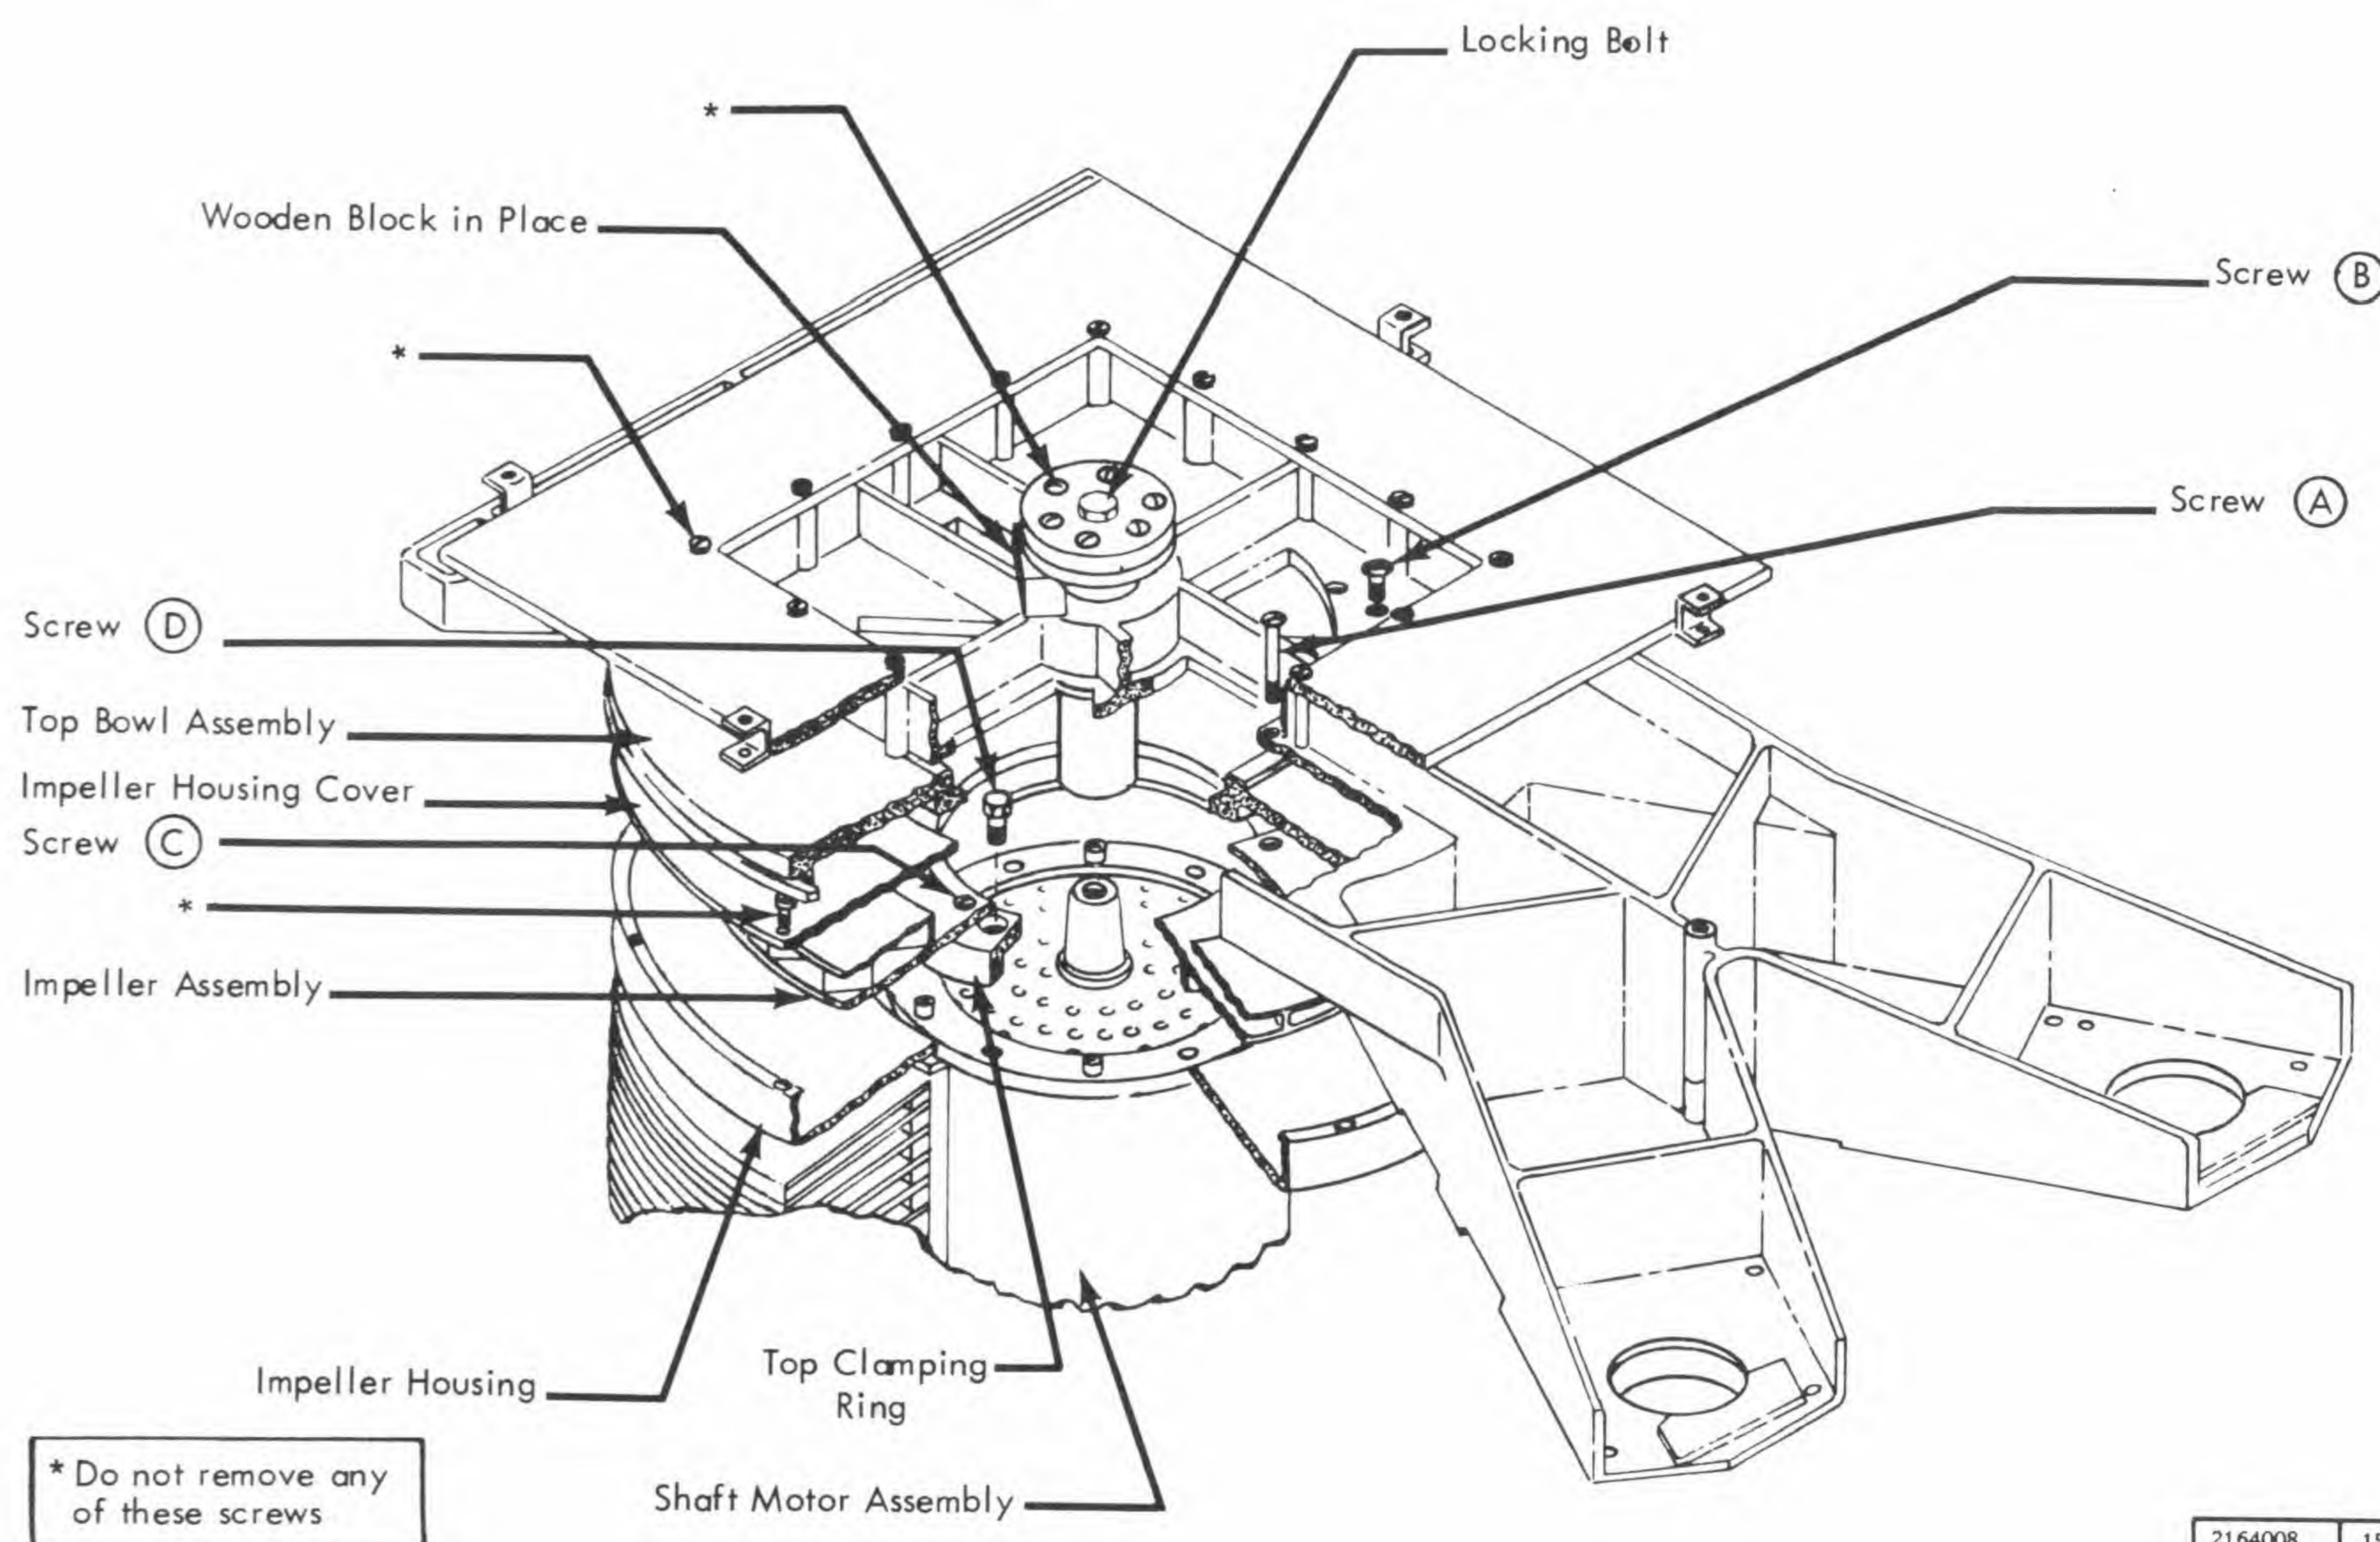
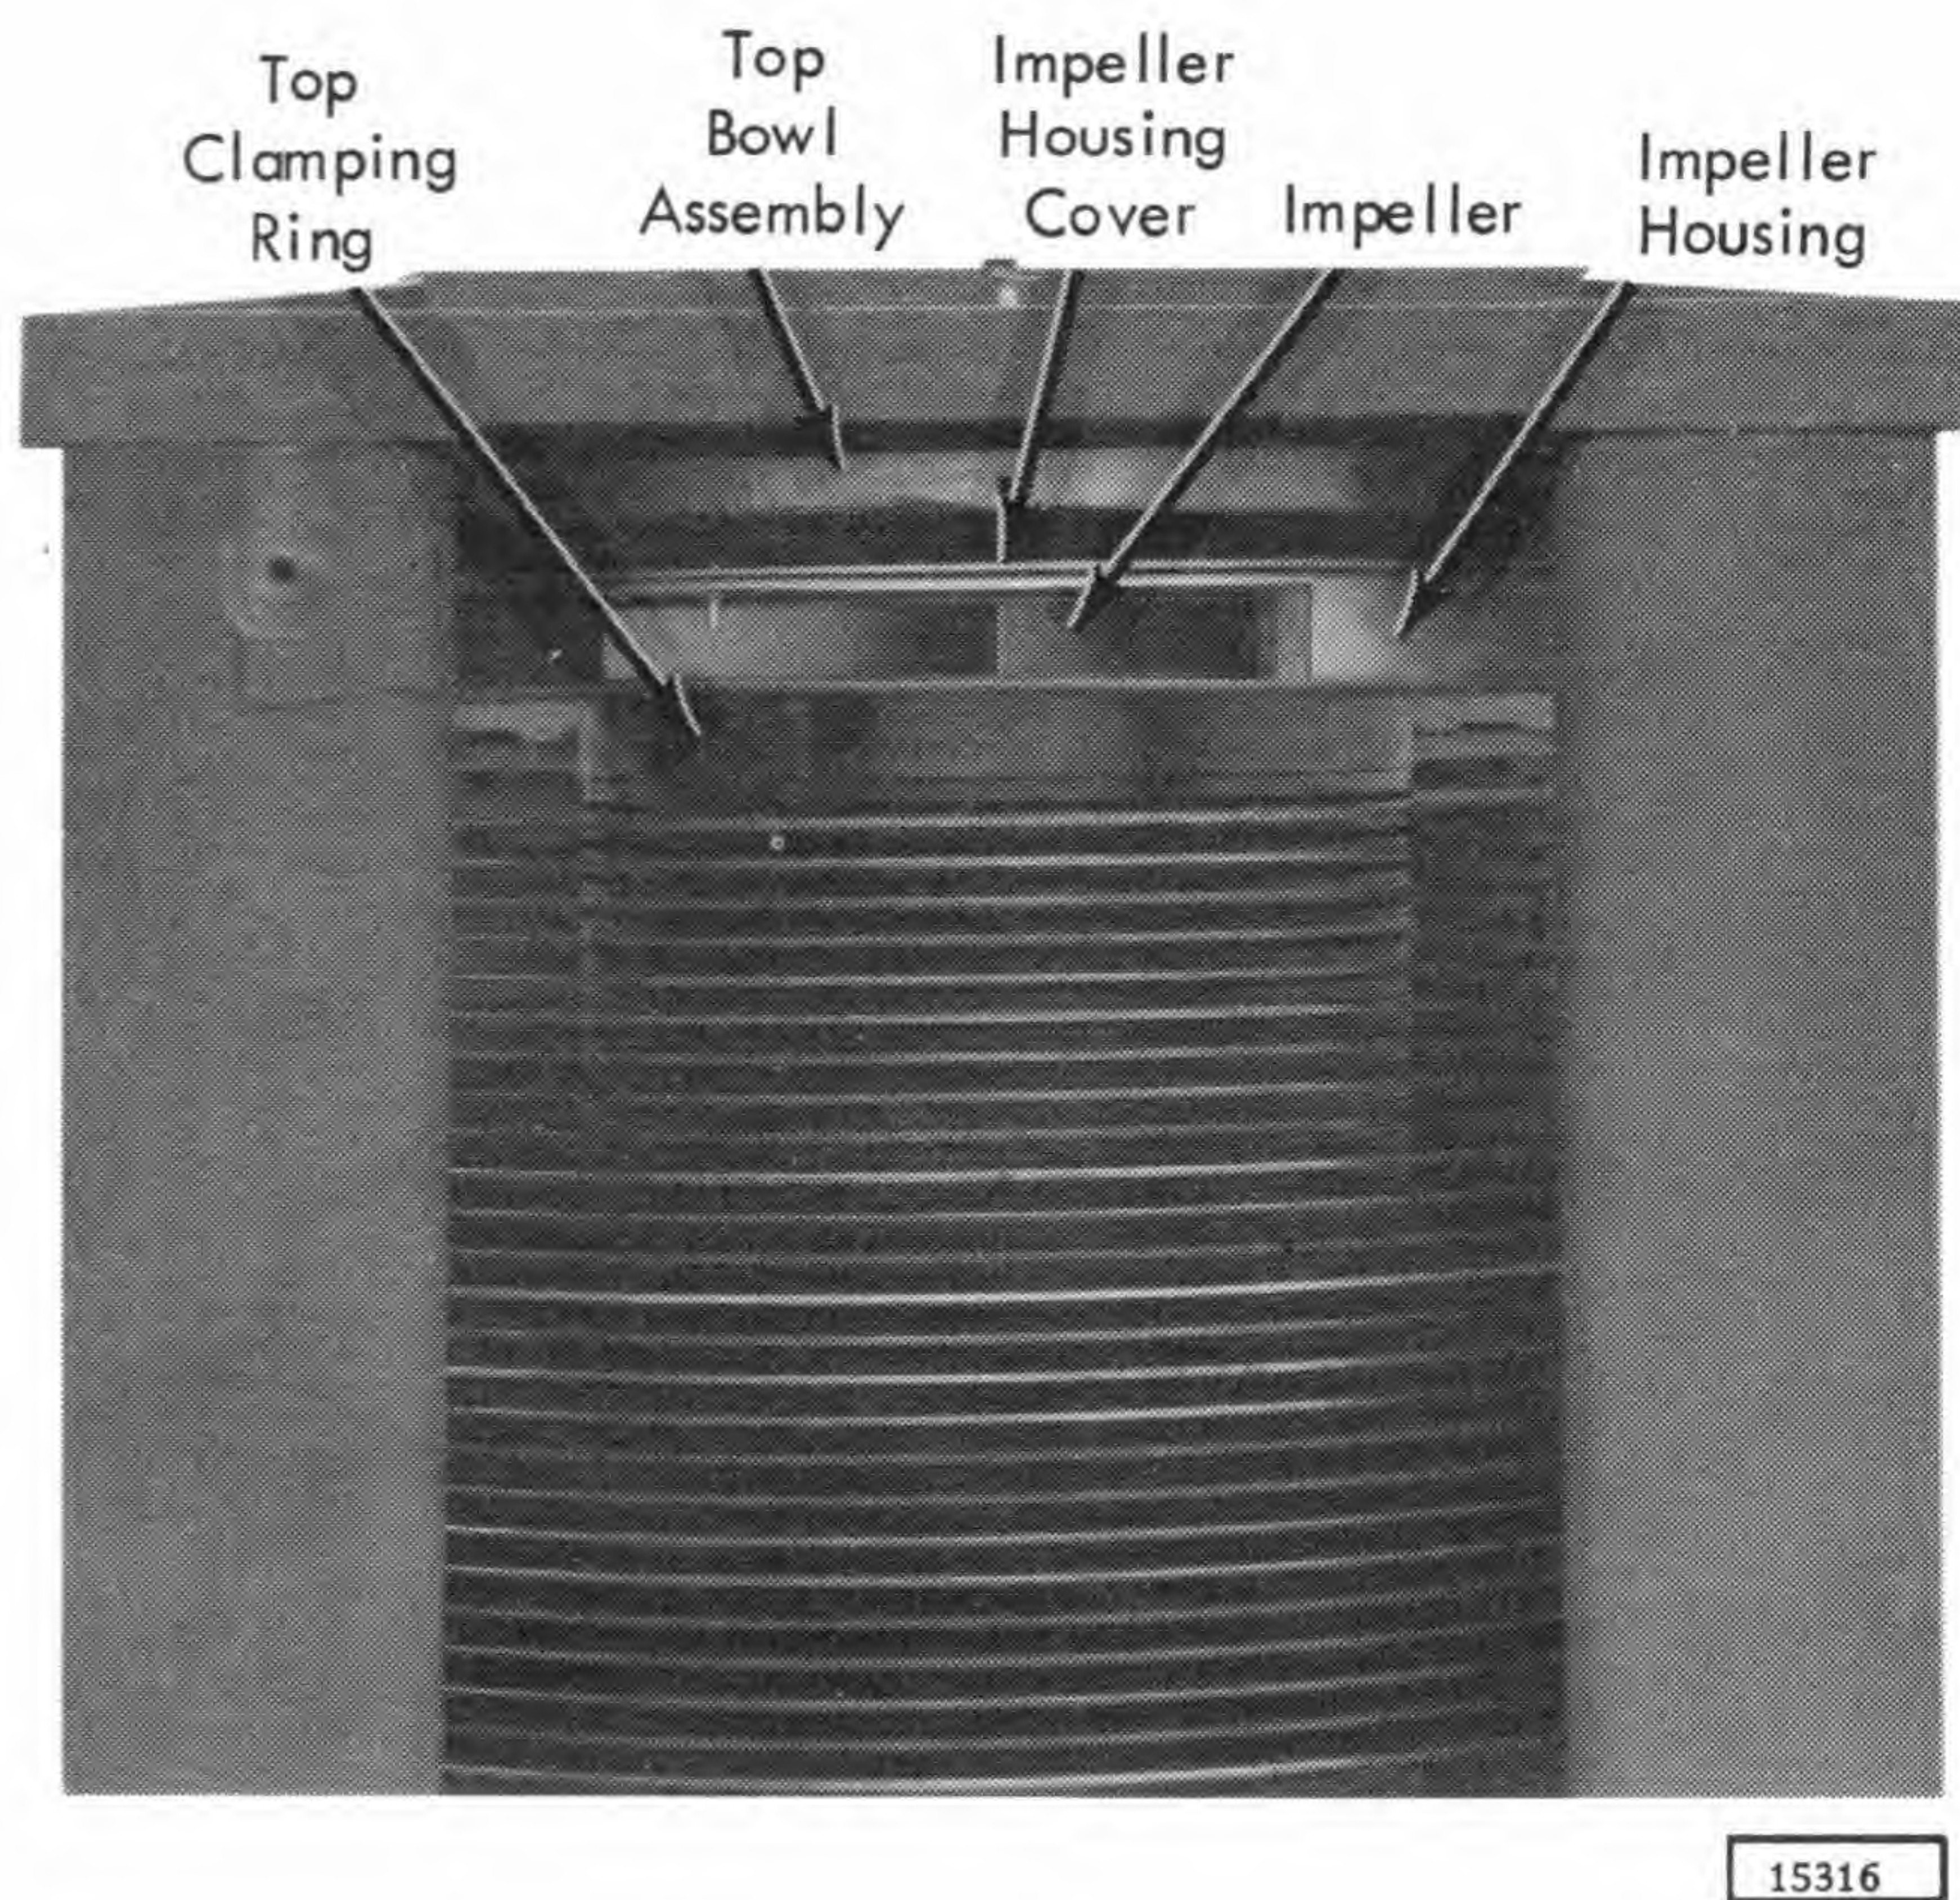

Figure 2-10. Disk Array Disassembly
Figure 2-11. Disk Array Assembled
12. Remove the six screws (Item A, Figure 2-10) which fasten the impeller housing assembly to the top casting.
13. Remove four screws (Item B, Figure 2-10) which fasten top bowl assembly to top casting. Remove top bowl through front of the machine (Figure 2-11).
14. Remove four screws (Item C, Figure 2-10) which fasten impeller to top clamping ring. The impeller housing cover, impeller housing, and impeller can be removed through the front of the machine as an assembly (Figure 2-11).
15. Remove the six disk clamping ring screws (Item D, Figure 2-10) and the clamping ring.